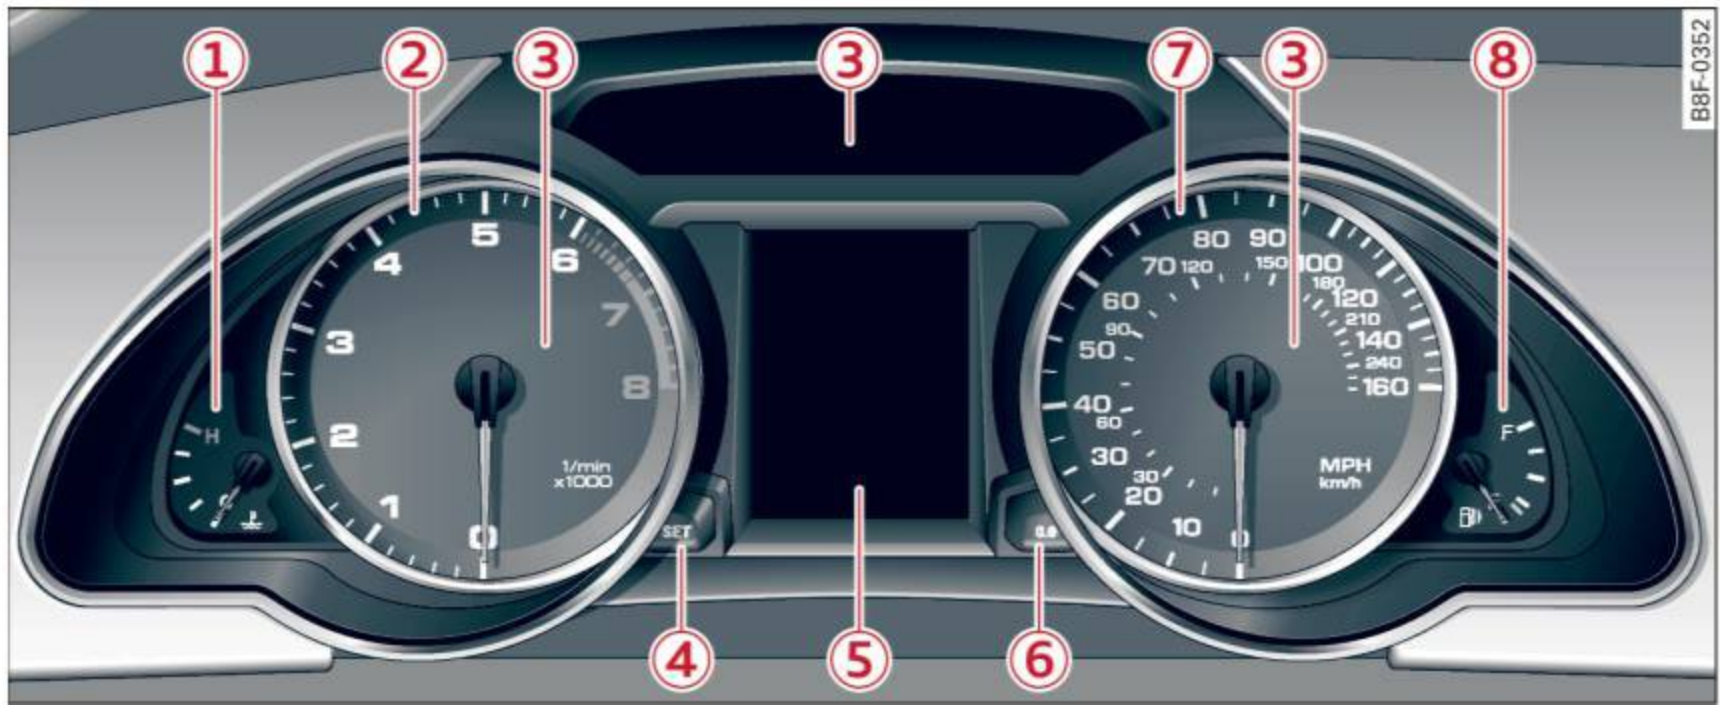

Fig. 3 Overview of the instrument cluster
The engine coolant gauge ⇨ *page 10, fig. 3* ① only works when the ignition is on. To prevent damage to your engine, please note the following important points:
The tachometer needle ② ⇒ *page 10, fig. 3* should only briefly be in the red zone: you could damage your engine! The beginning of the red zone varies depending on the engine.